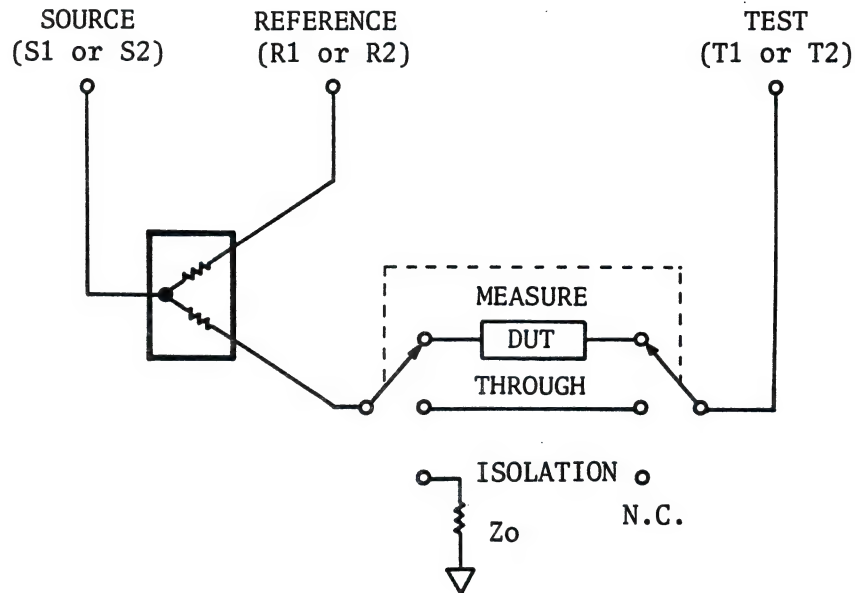

Figure 4-2. Transmission Calibration Diagram
2. Connect a power splitter, and a network as appropriate -- the **MEASURE** position shown in Figure 4-2.
6. Terminate the source signal with an impedance matched load, and disconnect the network under test from the setup, leave the test channel open -- the **ISOLATION** position shown in Figure 4-2.
8. Short circuit the test cables to make a through connection -- the THROUGH position shown in Figure 4-2.
10. Connect the network under test as appropriate for the selected measurement -- the MEASURE position shown in Figure 4-2.